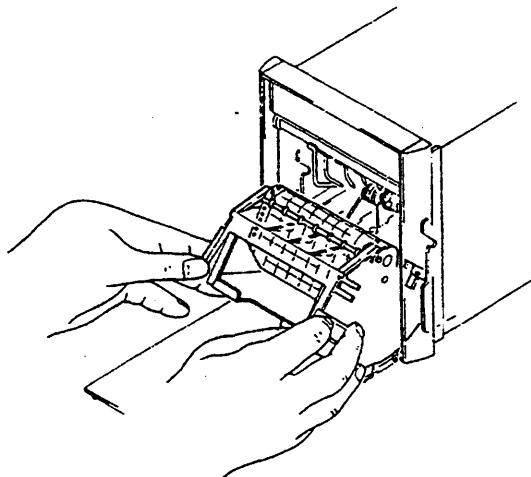

Figure 5.7 Replace the Chart Paper Compartment Back into the Recorder
- (10) Replace the chart paper compartment back into the recorder. Slide the protruding bosses of the chart paper compartment into the cutout groves located on the support brackets. Push the compartment into the recorder until the lock tab clicks shut. (see Figure 5.7.)